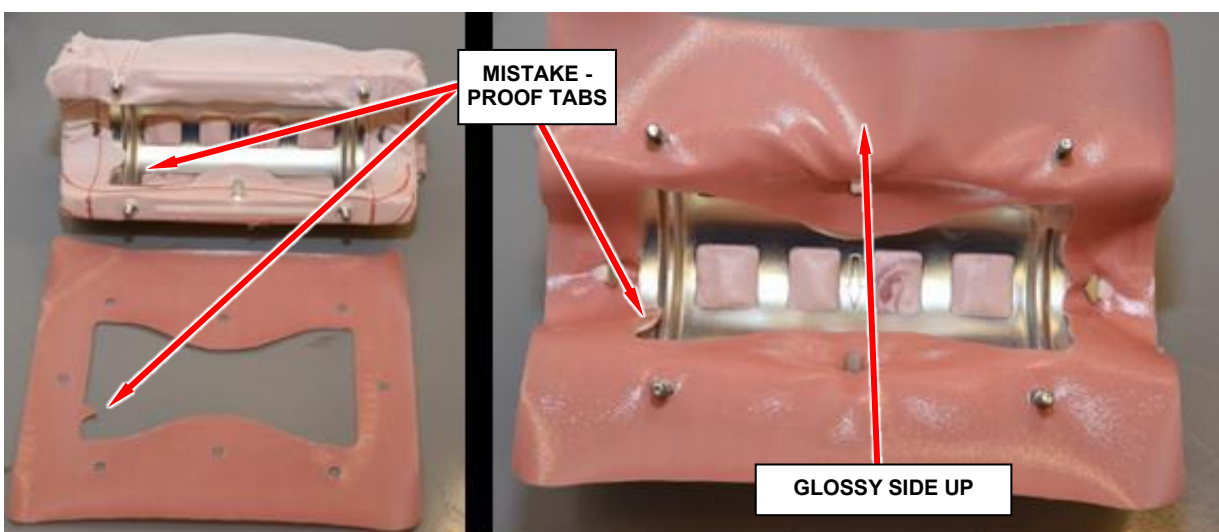

Figure 16 – Fabric Gasket to Cushion
- f. Place the fabric gasket, glossy side up, onto cushion. Mistake-proof tab should be aligned to the tab on the cushion (Figure 16).